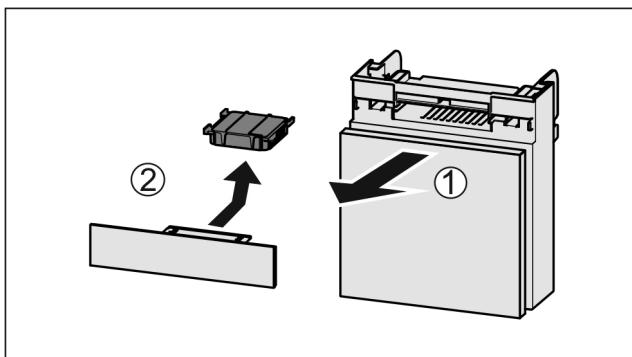

Fig. 71
- ▶ Pull out the compartment *Fig. 71 (1)*.
- ▶ Remove the carbon filter *Fig. 71 (2)*.